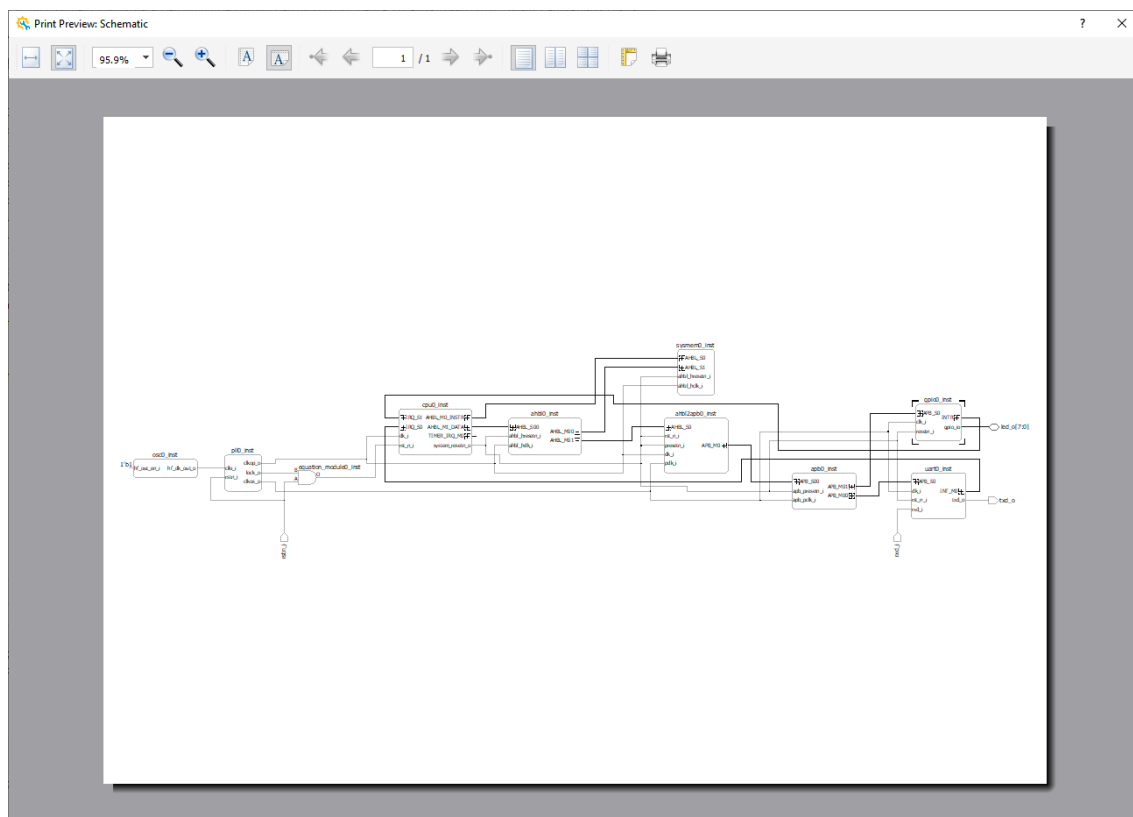

Figure 2.89. Print Preview
1. Choose **File > Print Preview**. The Print Preview window (Figure 2.89) opens.